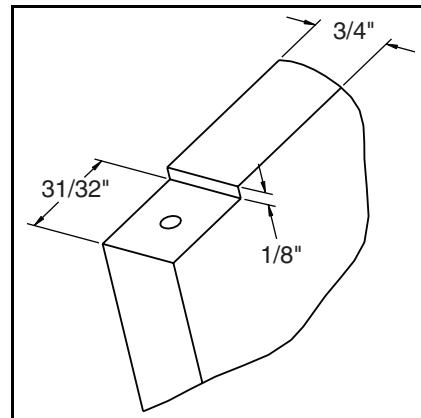

Figure 2
2. Create a relief (**Figure 2**) for pivot plate by cutting notch in top corner. Refer to the following figures for exact specifications.